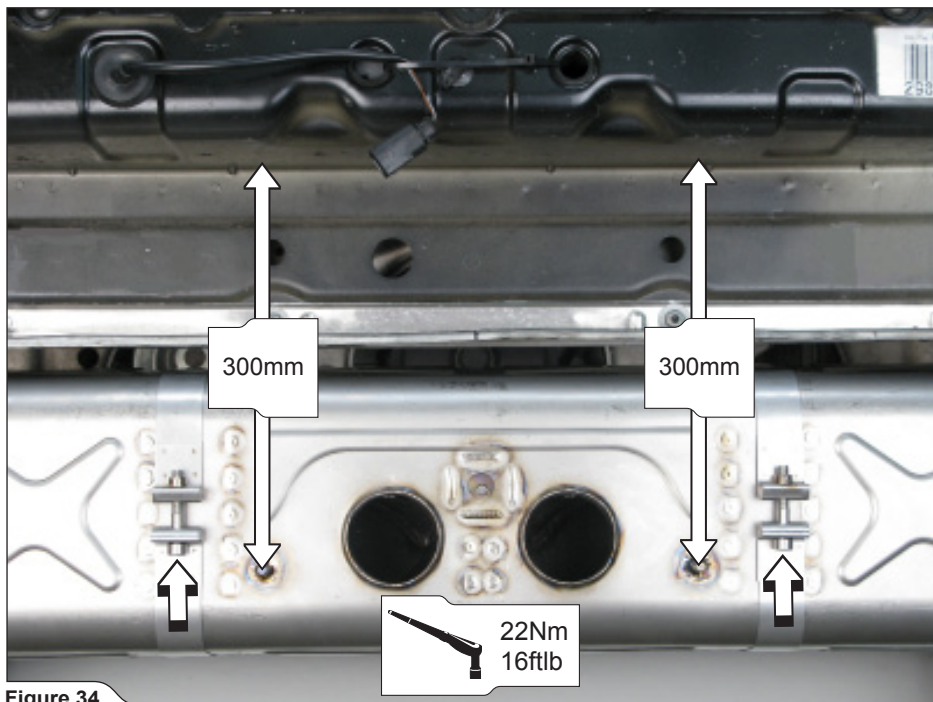

Figure 34
16. **For Slip-On, Sports Cup, Evolution and Evolution-Race:** hang, center and align (see the reference measurement in figure) the muffler as shown (**Figure 34**). Tighten the muffler clamps to a specified torque.